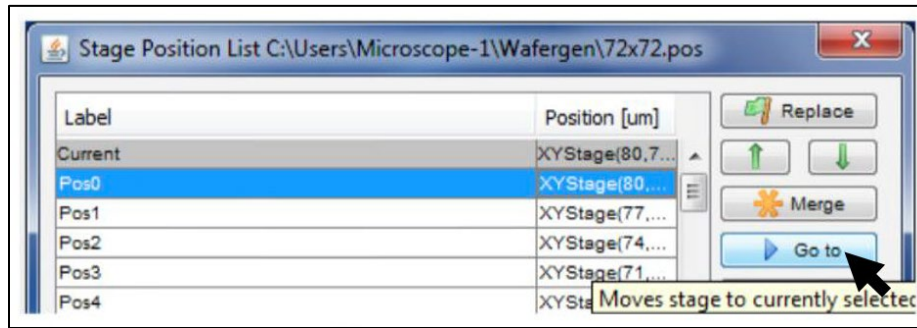

Figure 15. Moving the motorized stage to Position 0.
11. Select the row “Pos0” in the *Stage Position List* window (Figure 15), and then click the [Go to] button.